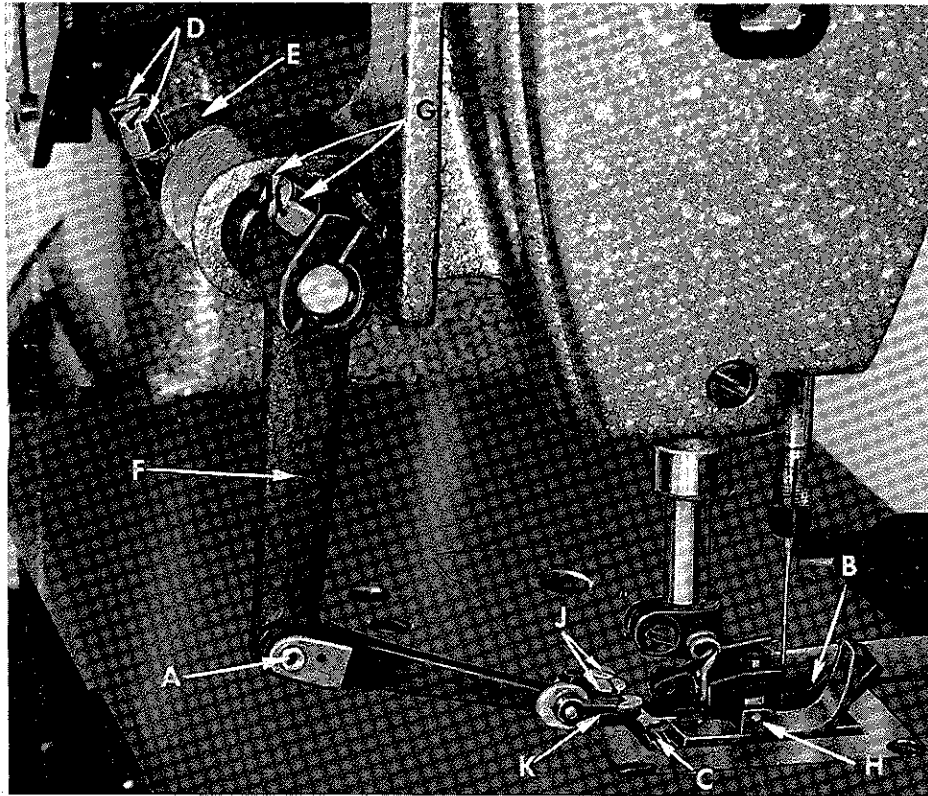
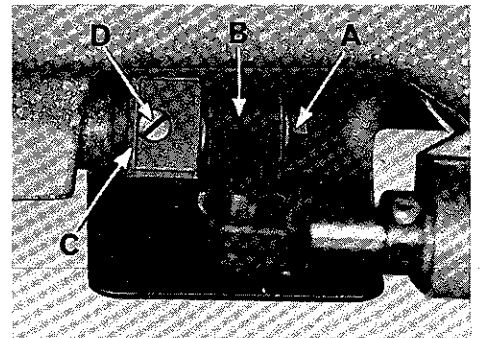

Fig. 14
Fig. 15
After the adjustments described under "Setting Height of Presser Bar" have been completed and if a change of stitch length is desired, (See paragraph under "Changing Stitch Length") remove the snap ring from one end of the top-grip-feed drive connecting hinge pin (A, Fig. 14) and withdraw pin. This is to avoid chipping teeth of the presser foot feed dog (B) or main feed dog (C) while setting the stitch to the required length. Once the stitch length has been set, the following adjustments may be required to synchronize the top-grip-feed mechanism with the main feed dog.
Loosen nut (A, Fig. 15)(it has a left hand thread) which secures the top feed crank link assembly (B) to the top feed drive eccentric head (C). Turn screw (D) counterclockwise to its extreme position and retighten nut (A). Check to be sure that the top feed crank link assembly (B) has equal lateral clearance on both sides, so there is no bind. Should adjustment be necessary, loosen screws (D, Fig. 14) and move top-grip-feed rocker arm (E) as required. Retighten screws (D). Turn handwheel to position the top feed drive arm (F) at its extreme forward end of travel. Replace the top-grip-feed drive connecting hinge pin (A) and secure with snap ring. It may be necessary to loosen screws (G) and slightly rotate the top feed drive arm (F) for
With presser foot (H, Fig. 14) raised slightly, rotate handwheel in operating direction. The presser foot feed dog should be synchronized to move forward or rearward simultaneously with the main feed dog. Should timing be necessary, remove the upper crank chamber cover located on the top right end of machine. Rotate handwheel slightly to facilitate loosening of screws (A, Fig. 16) in the hub of upper feed driven sprocket (B). While holding the handwheel, advance or retard top-grip-feed drive shaft by rotating top feed drive eccentric head (C, Fig. 15) as required. Snug-up screws (A, Fig. 16). Rotate handwheel in operating direction and observe relationship between upper and lower feed dogs. Repeat timing adjustment as necessary to obtain desired conditions, retighten screws (A) securely. Replace upper crank chamber cover.
Loosen nut (A, Fig. 15) and turn screw (D) clockwise as necessary to set the stitch length of the top-grip-feed comparable to the main feed stitch length. Retighten nut (A). Recheck for equal lateral clearance on both sides of top feed crank link assembly as described before.
Presser foot feed dog (B, Fig. 14) must line up with the main feed dog (C) left to right, and in-line-of-feed the last teeth of the top and bottom feeds should match tooth point to point. This can be accomplished by loosening screws (G) which will allow forward, rearward or lateral positioning of presser foot as required, retighten screws. A minute adjustment of the presser foot feed dog itself, from left to right, can be obtained by loosening screws (J) which secures the presser foot feed dog to the connecting rod grip feed hinge (K), position as required, retighten screws (J).